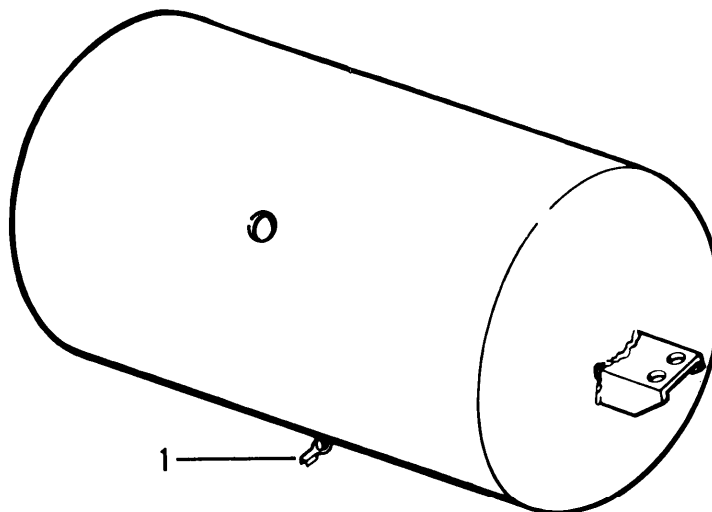

Figure 3-6. Air Reservoir
- c. Open drain cock (1, fig. 3-6) and allow pressure to drain.
- d. Close drain cock (1).